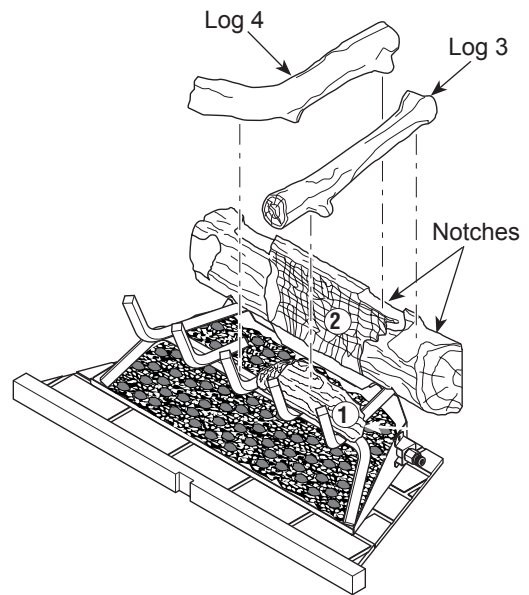

Figure 23 - Installing Logs 3 and 4
3. Place log 3 into notch on log 2, resting front end on top of log 1 (see **Figure 23**).
4. Place upper end of log 4 into notch on log 2 as shown in **Figure 23**. Rest lower end of log 4 onto middle grate finger as shown in **Figure 24**.